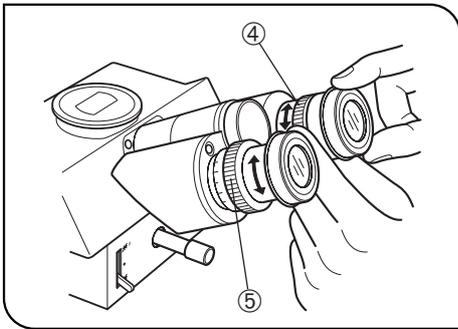

Fig. 2
1. Turn the pointer brightness control ① of the discussion attachment clockwise to turn on the pointer (⬆).
- Ⓞ Set the pointer color switching lever ② to other position than the middle position. If the pointer cannot be seen in the field of view, move the pointer at the center of field using the pointer control lever ③.
2. Turn the helicoid ④ of the right eyepiece to focus on the pointer.
3. Turn the helicoid ⑤ of the left eyepiece sleeve to focus on the pointer. (Fig. 2)